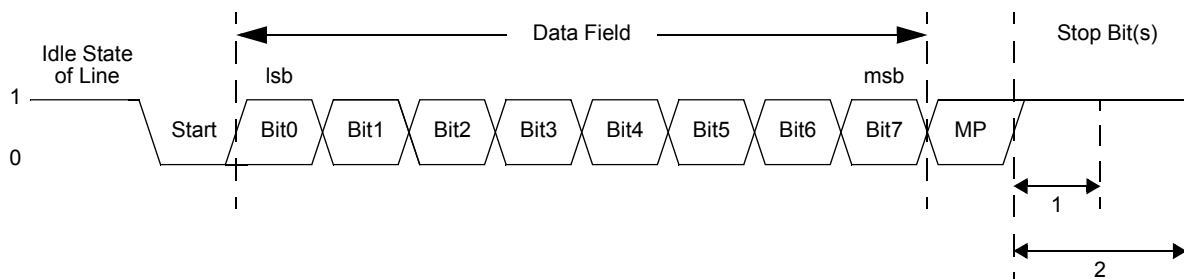

Figure 15. UART Asynchronous MULTIPROCESSOR Mode Data Format
The UART has a MULTIPROCESSOR (9-bit) mode that uses an extra (9th) bit for selective communication when a number of processors share a common UART bus. In MULTIPROCESSOR mode (also referred to as 9-Bit mode), the multiprocessor bit (MP) is transmitted immediately following the 8-bits of data and immediately preceding the Stop bit(s) as displayed in Figure 15. The character format is: